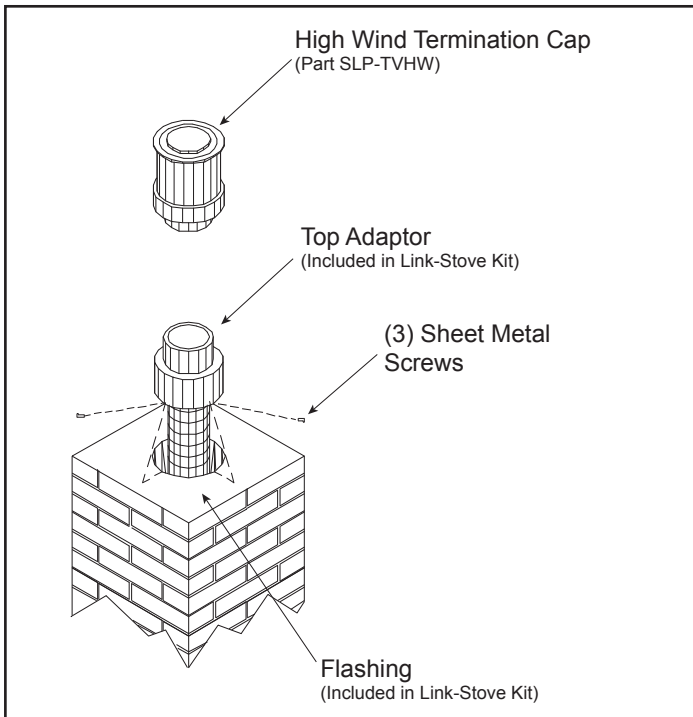

Figure 4.21
8. Secure the top adapter to the flashing. Use three sheet metal screws through the side of the top adapter into the flange on the flashing. See Figure 4.21. Twist lock the high wind termination cap on to the top adapter.